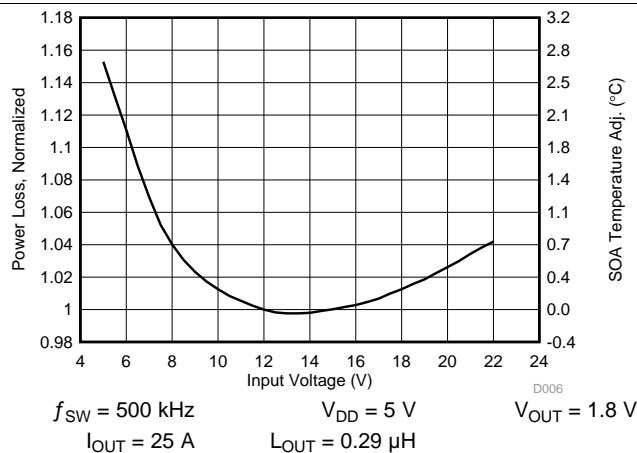

Figure 6. Normalized Power Loss vs Input Voltage
- Normalized power loss for input voltage ≈ 1.07 (Figure 6)
- SOA adjustment for input voltage $\approx 1.2^\circ\text{C}$ (Figure 6)